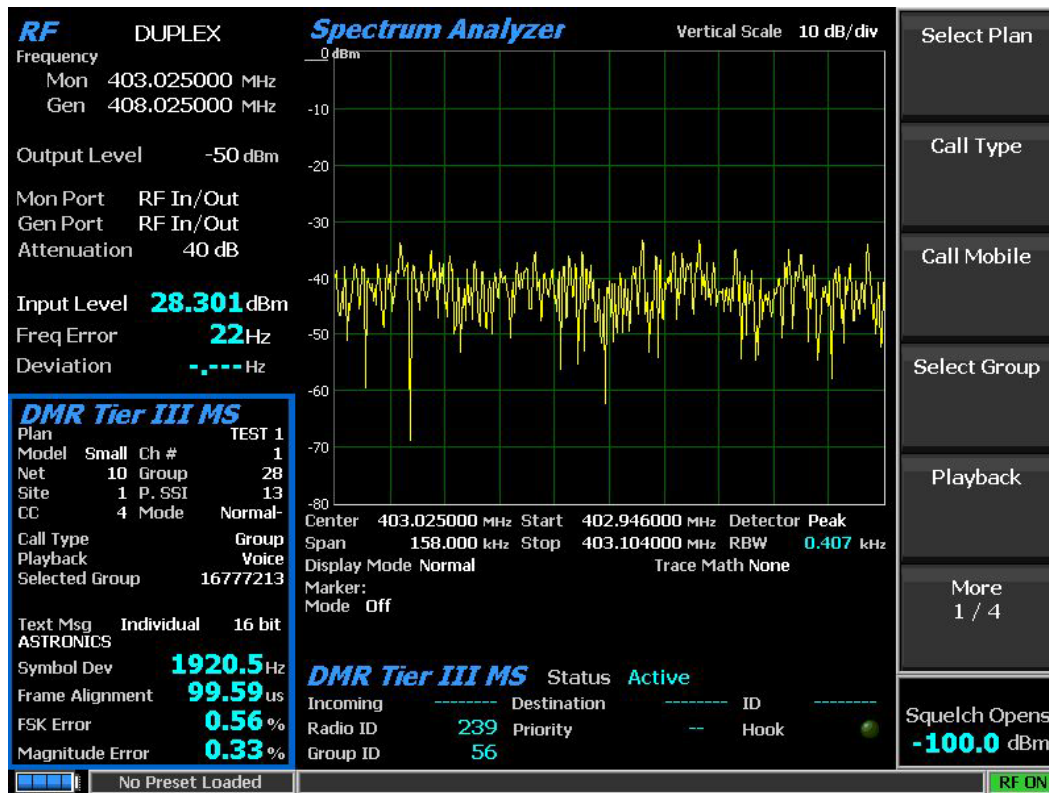

Figure 25 – Registration of Radio is Complete
15. Power up UUT. If radio is already set for proper zone/channel testing, the device should register to test mode (see Figure 25).